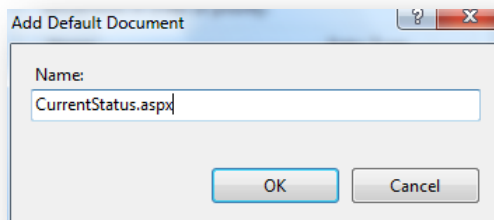

Figure 84 – Add Default Document
10. Click “Next” to accept the default access permissions. See Figure 84.